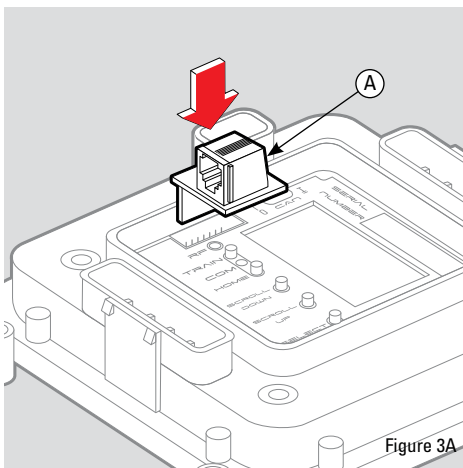
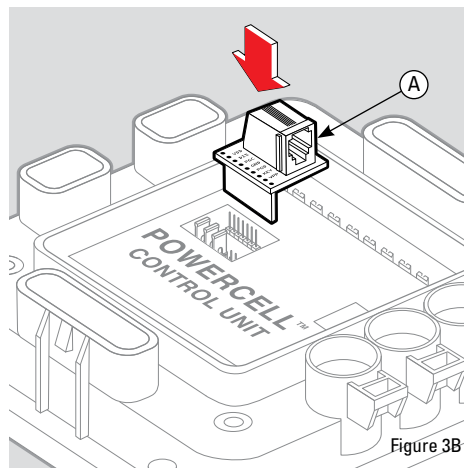

Figure 3A
Figure 3B
Plug the programming header (A) into the MASTERCELL™ (Figure 3A) or POWERCELL™ unit (Figure 3B) to be programmed. Ensure that the pin names on the header match up with those on the circuit board. There should be one free hole on each side of the programming header when connected.
NOTE: When programming the POWERCELL™ control unit, take special care in making sure that the pin names on the programming header and the circuit board are aligned. See figure 3B for detailed diagram.